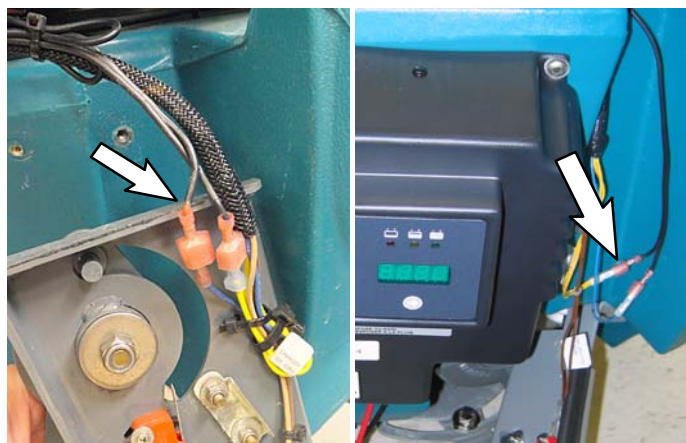

FIG. 13
2. Disconnect the two black charger interlock wires from the blue and yellow wires as shown (FIG. 13).